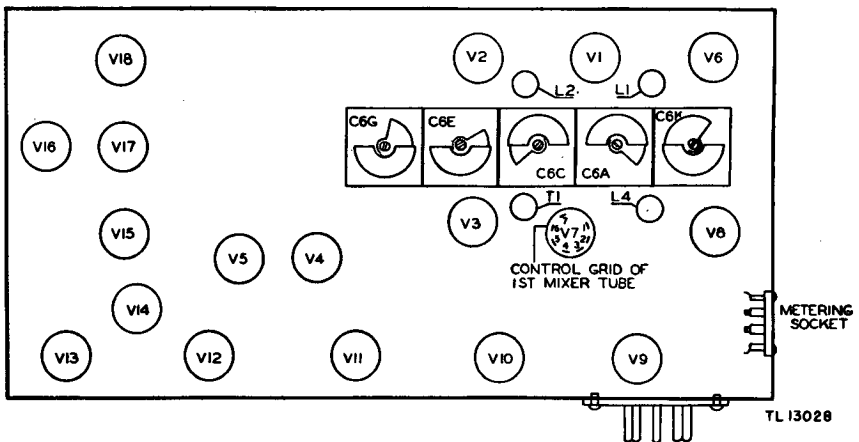

Figure 86. Radio Receiver and Transmitter BC-1000-A, alignment instruction detail—bottom view.
d. ALIGNING INTERMEDIATE-FREQUENCY AMPLIFIER. (1) With the VTVI VOLTAGE SELECTOR SWITCH SW1 set in the 4.5-volt position, open the shadow angle of VTVI by adjusting the calibrate knob.
(2) Insert the test probe in pin No. 2 of the metering socket and fasten the alligator clip to the chassis.
(3) Connect Oscillator VO-6-( ) by fastening one alligator clip on the flexible lead of the terminal box to the chassis, and the other alligator clip to the grid (pin No. 6) of the first mixer tube V7. (See fig. 86.)
(4) Set the HI-LO switch of the oscillator terminal box (dummy load) to the LO position.
(5) Increase the output by turning the attenuation control (marked INCREASE) of the oscillator to the right just far enough to change the angle of the shadow. If there is no indication, set the HI-LO switch of the oscillator terminal box to HI. If there still is no indication, disconnect Oscillator VO-6-( ), and set L6-2, L6-1, L5-3, L5-2, and L5-1 so that the adjusting screws are extended approximately  $\frac{1}{4}$  inch above the locknuts. With the receiver turned to full volume, adjust the
*g. ALIGNING MASTER OSCILLATOR.* (1) Use the INDICATOR ADJUSTMENT to center the dial indicator line in the CHANNEL window.
(2) Turn the TUNING knob until C between channels 36 and 37 is directly under the indicator line. Press the switch on Handset TS-15-( ) and, with the handset to the ear, adjust trimmer C6G for zero beat. (See fig. 86.) The proper rotor-plate position is about three-fourths meshed. Check calibration on channel 15. If zero beat is not obtained on channel 15, oscillator inductance must be adjusted. (See par. 111.)
*h. ALIGNING DOUBLER.* (1) With the test probe free, set the VTVI VOLTAGE SELECTOR SWITCH to the 30-volt position and, by adjusting the calibrate knob, open the indicator eye to approximately 90°.